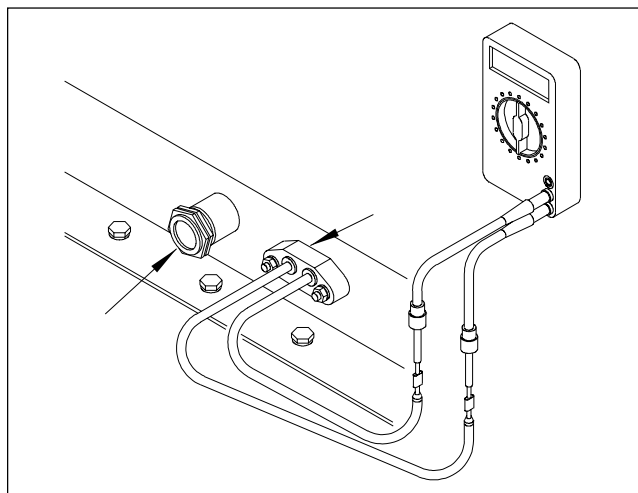

Figure 11. Igniter Resistance Test
2. With the igniter unplugged from the ignition control, connect the leads of the ohmmeter to the ends of the igniter wiring (see Fig. 11). A cold igniter should have resistance in the range of 50 to 400 ohms.